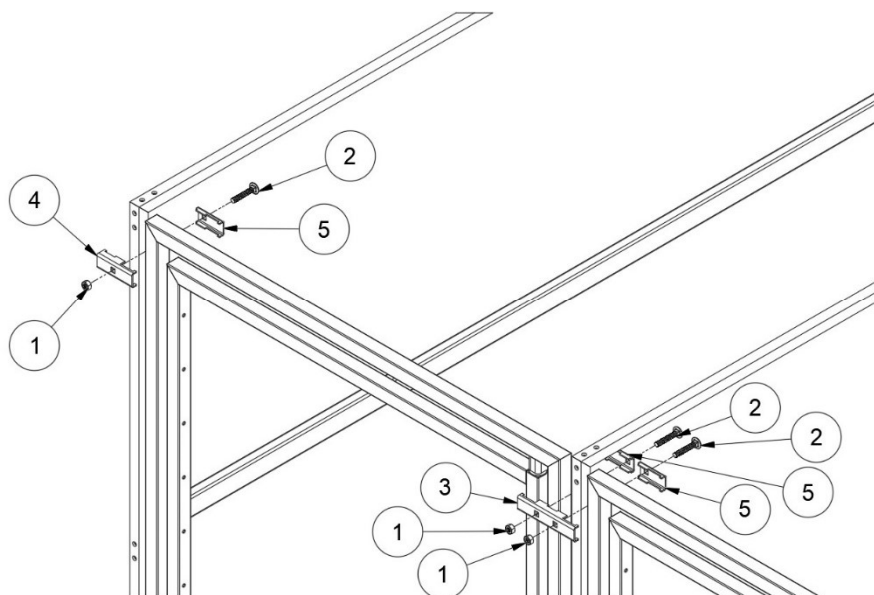
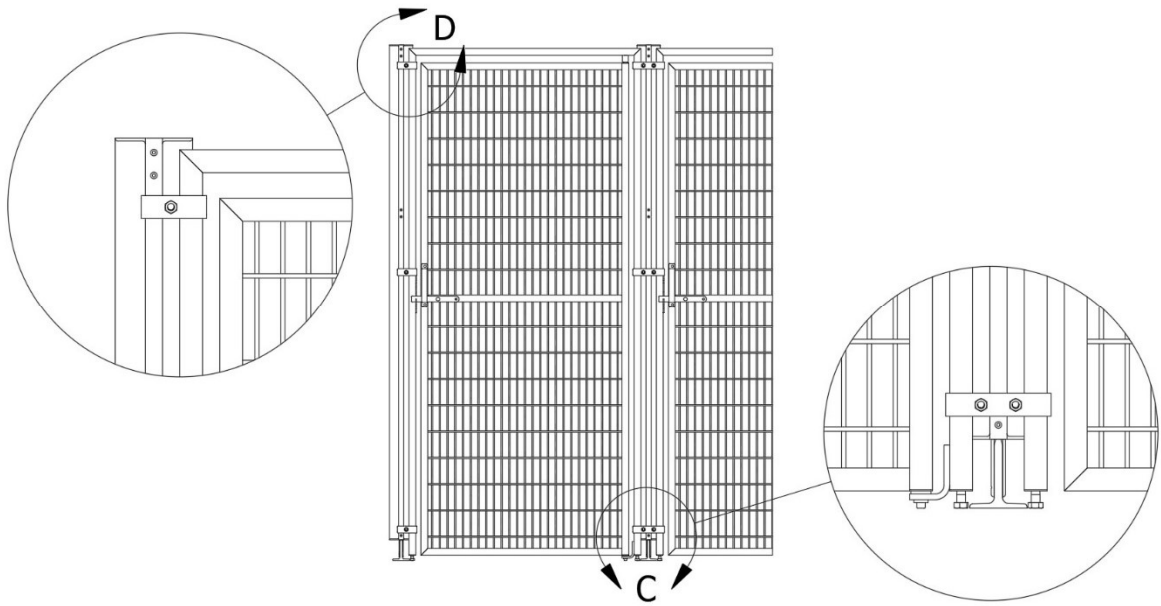

Figure 14
Figure 15
1. Attach the gate/stall front on the front of each run between the division panels with three clamps on each side using the 5/16” x 1-3/4” bolts and nuts provided as shown in Figure 14. Note: It takes two halves to make up one clamp. Attach gates/stall fronts to outside division panels using “square – 1” panel clamps”. All other gates/stall fronts will use “square – 1” triple clamps”. **To help ensure the safety of the animals the round head of the bolt should be assembled toward the inside of the run.** Note: The triple clamps attach two gates/stall fronts together. Therefore, you will have to hang two gates/stall fronts at the same time (see Figure 15).